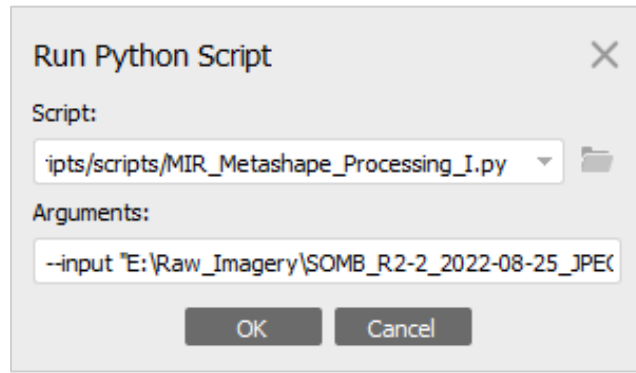

Figure 9. Run Python Script window with script and arguments for SPC generation for one plot.
3. A new window will appear: `Run Python Script` (Figure 9). When using a script for the first time, it will need to be selected using the `Browse` option. Click on the folder icon (`Browse`), then navigate to the folder containing the appropriate script based on the instructions below.
- To process photo alignment for one plot (Figure 9):